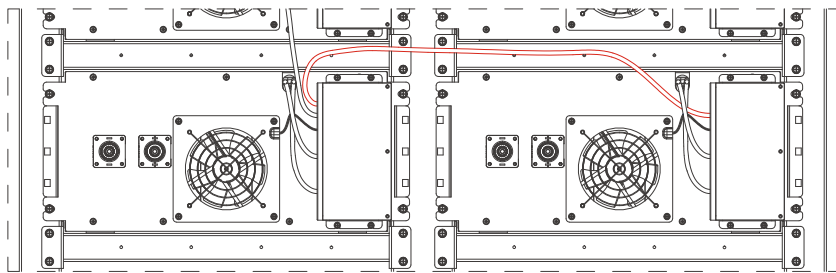

Figure 2.8
(4) Fifth and sixth battery box BMU communication connection (Figure 2.8).